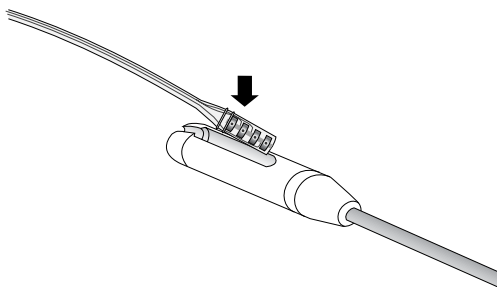

Figure 35. Insert extension setscrew connector into carrier tip.
9. With the tunneling tool in place, remove the wedge tip and attach the carrier tip (Figure 35).
10. Insert the extension setscrew connector into the groove in the carrier tip (Figure 35). Carefully draw the assembly through the tunnel to where the lead lies exposed.